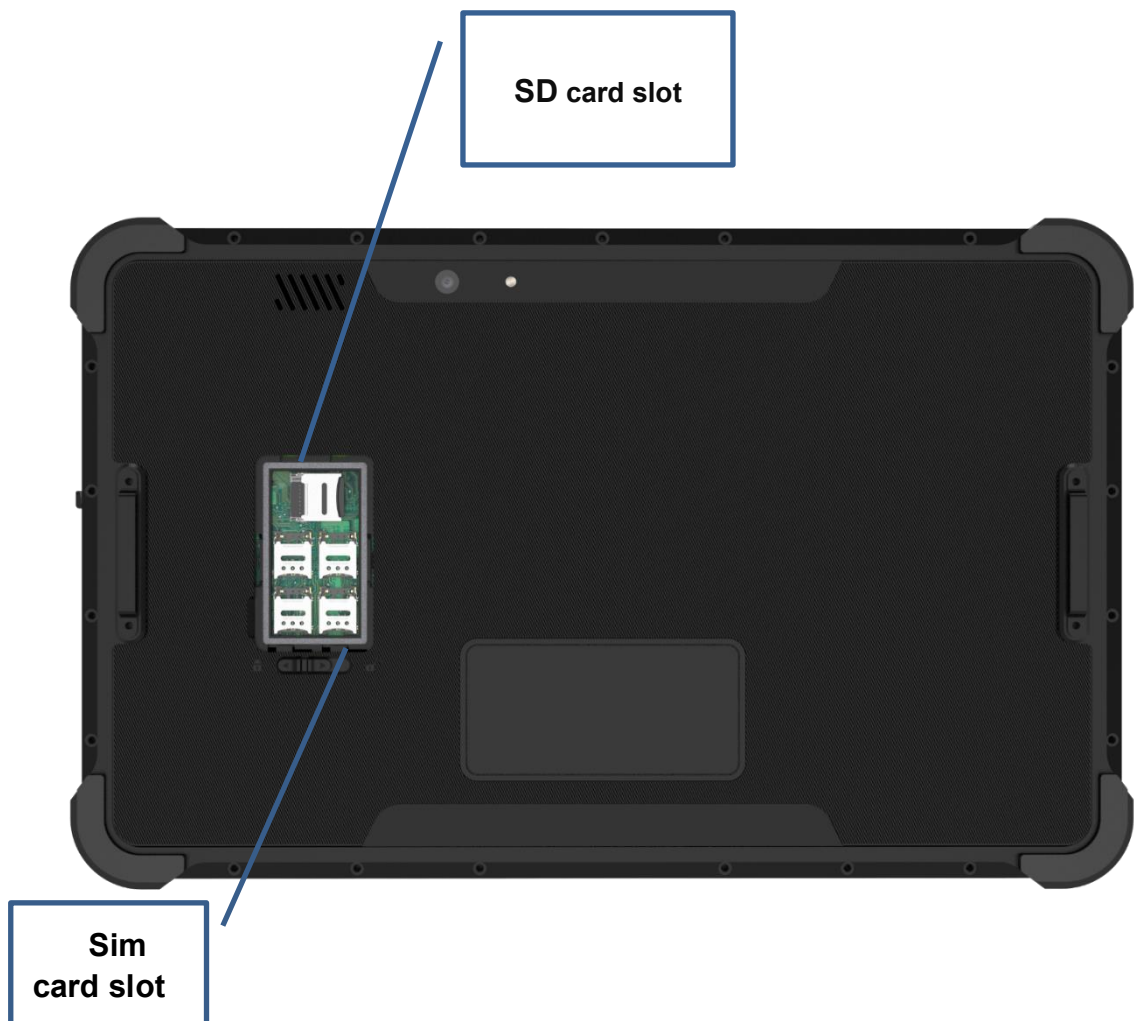

Figure 3.3-2
- 3) Insert: Insert the card into the slot in the direction shown. (Fig. 3.3-2)